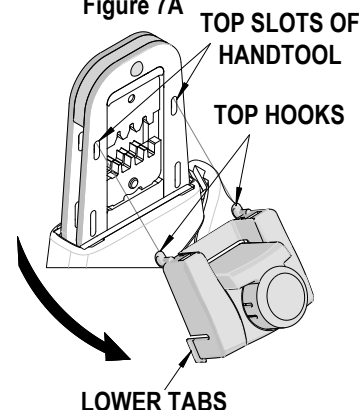

Figure 7B
- Press the red insert down as far as it will go as shown in Figure 7B.
- Holding onto the lower part of the locator with your thumb and index finger, insert the locator's top hooks (2) into the hand tool top slots.